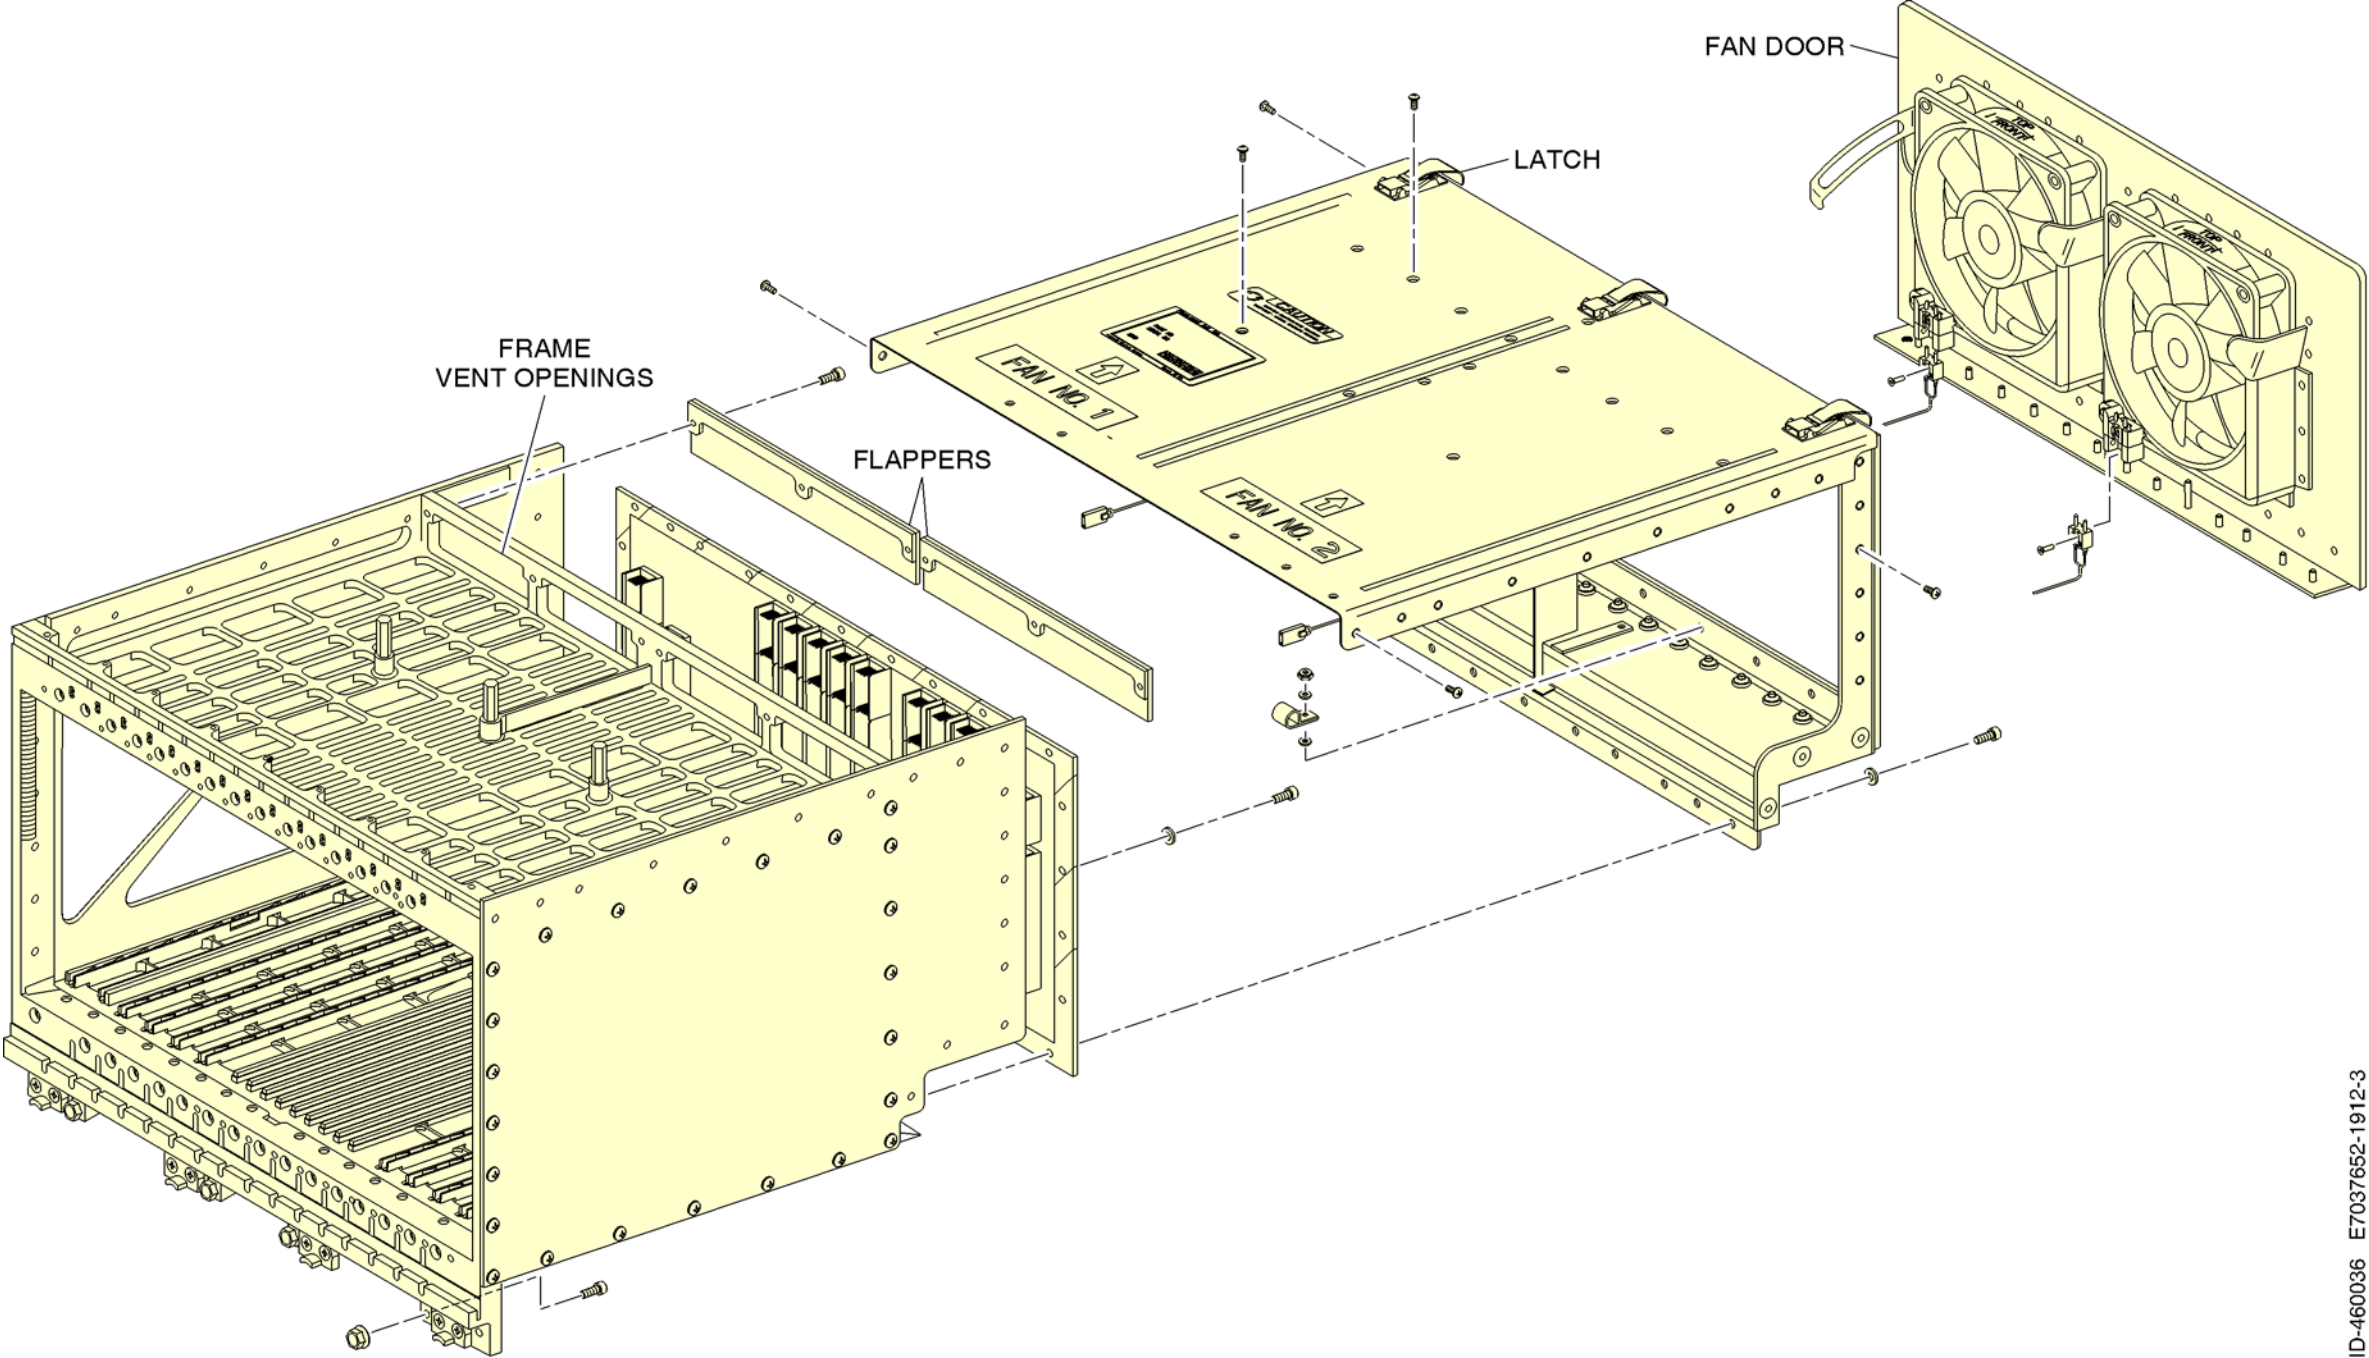

Figure 1. (Sheet 1 of 1) MAU-12L Electrical Equipment Chassis
- (1) Figure 1 shows the location of the parts identified below: